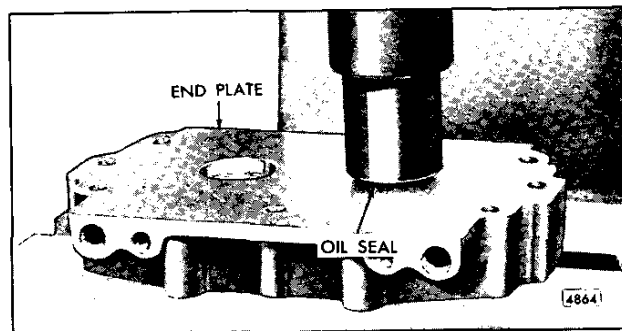

Fig. 11 - Installing Lip Type Oil Seal in End Plate with Tool J 22576
- b. Lubricate the outer diameter of the seal and, using installer J 22576, press the seal (lip facing down) into the counterbored hole until the shoulder on the installer contacts the end plate (Fig. 11). A step on the seal installer will position the oil seal below the finished face of the end plate within the .002" to .008" specified.